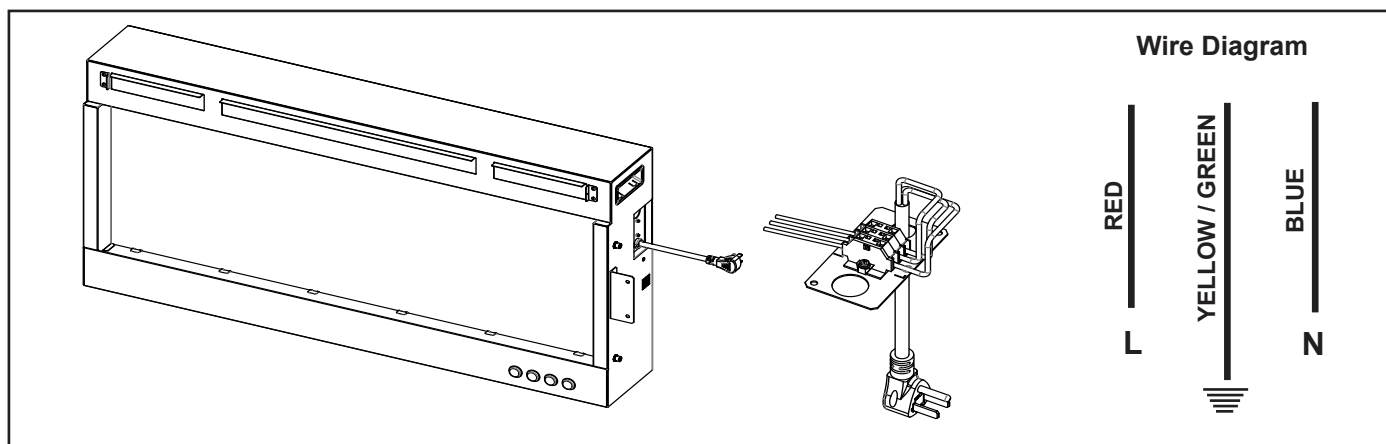

Figure 4.14 Optional Power Cord Assembly (Only for Direct Wall Mount Installation)
3. Connect the three appliance wires to the terminal block supplied with the power cord kit. See Figure 4.14.